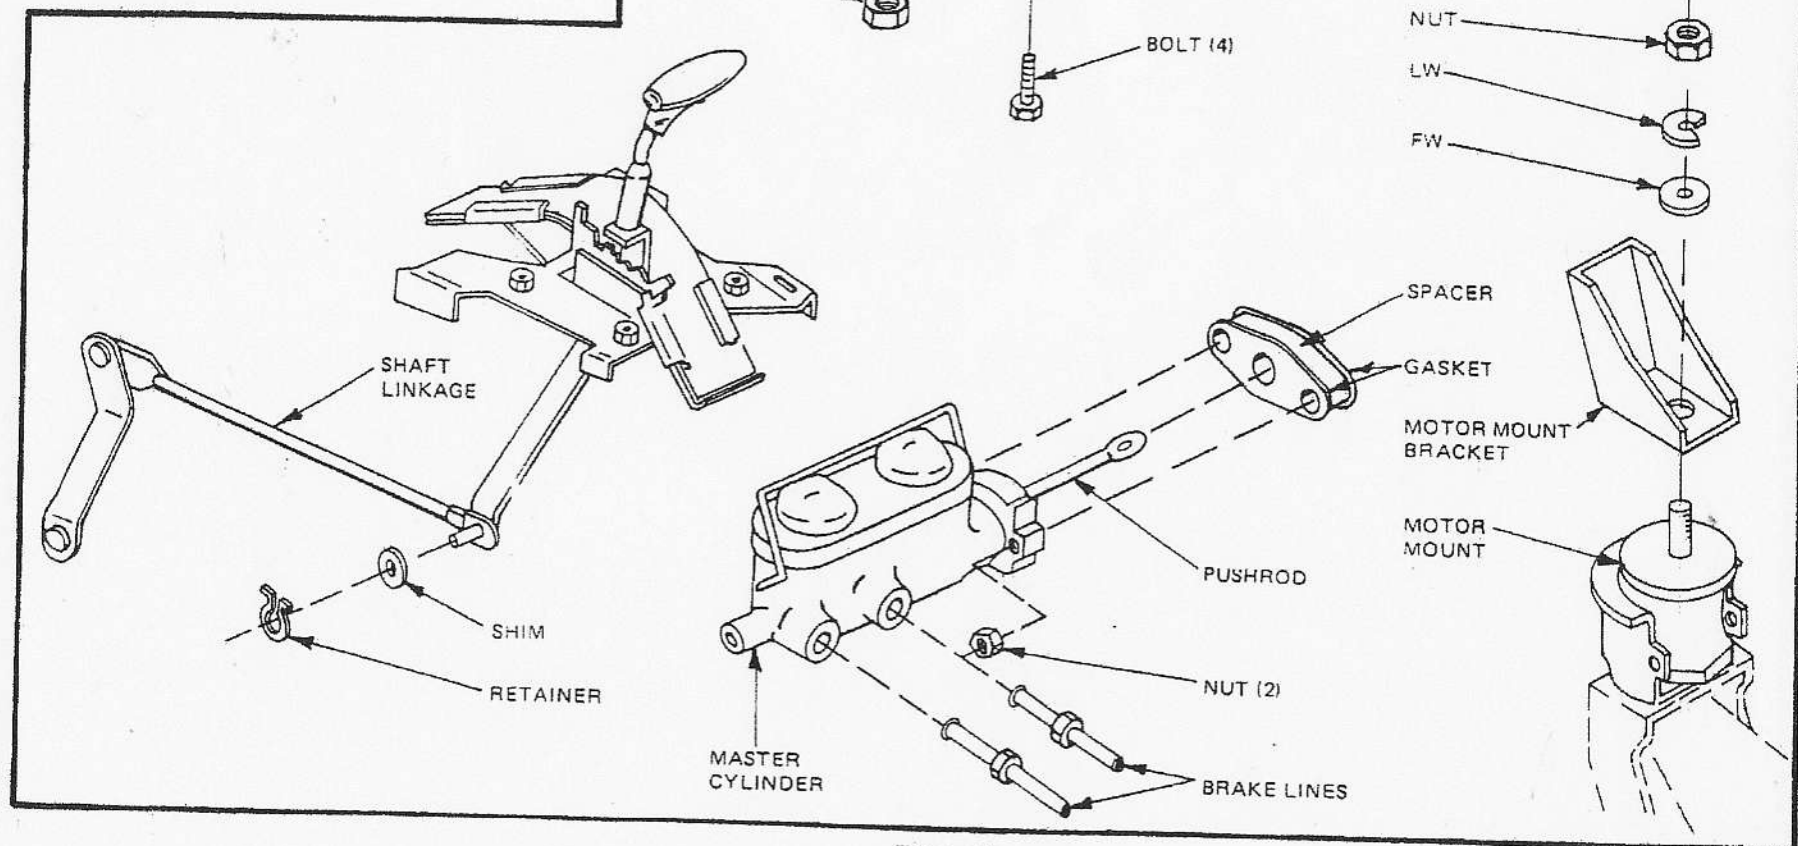

Figure 6
- ☐ Under car, remove retainer holding shift linkage to handle. Remove nut at center of transmission mount. (Figure 6)